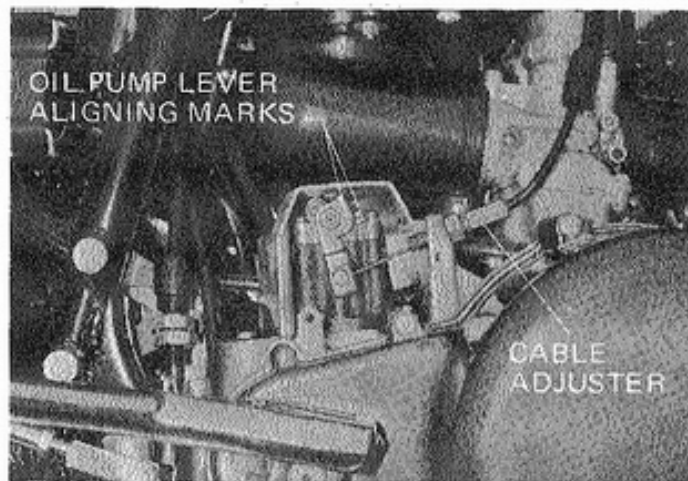

Fig. 7-5-6 Adjusting oil pump
- 3) Holding the grip in the position mentioned in the previous item, adjust the cable adjuster so that a score on the oil pump lever align with the marking on the body Fig. 7-5-6.